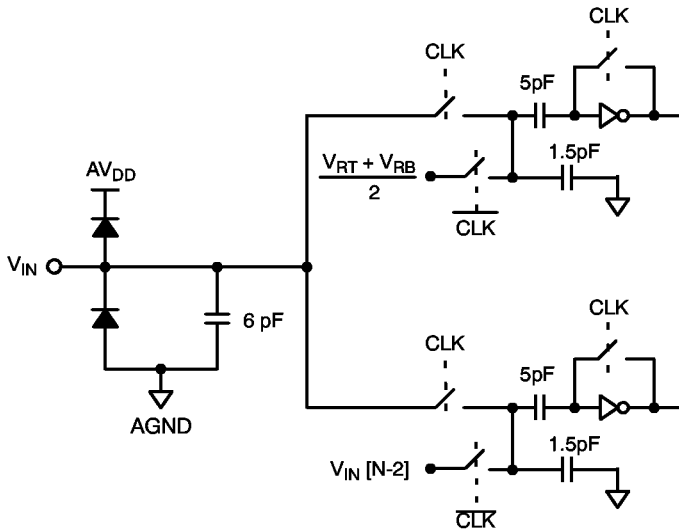

Figure 5. Equivalent Input Circuit
- ⁵ See V_{IN} input equivalent circuit (Figure 5.). Switched capacitor analog input requires driver with low output resistance.
The reference can be biased internally by shorting V_{RT} to V_{RTS} and V_{RB} to V_{RBS} . This will generate 0.6 V at V_{RB} and 2.6 V at V_{RT} (see *Figure 5*).